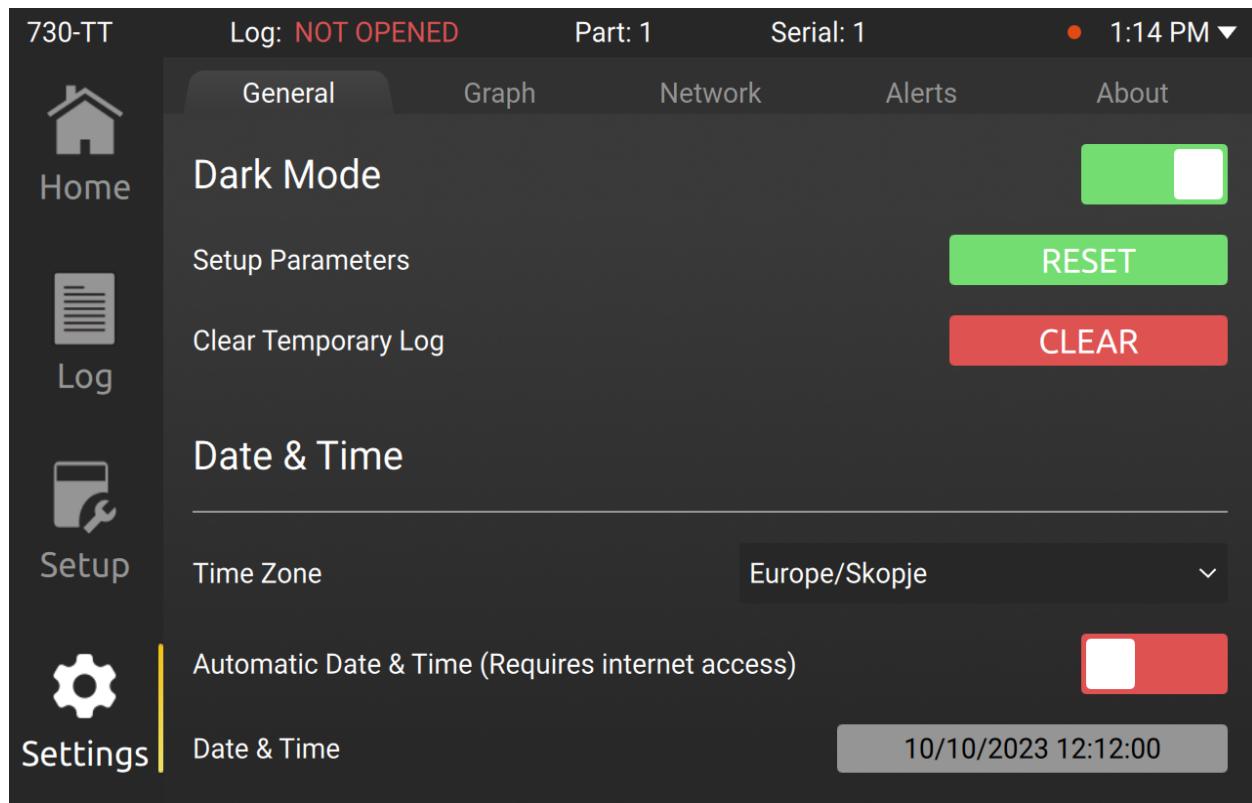

Figure 24 – Illustration of the General tab with Automatic Date & Time off
- Graph (Figure 24)
Users can manually adjust the Graph settings by opening the Graph tab from the Settings page (refer to Figure 24).